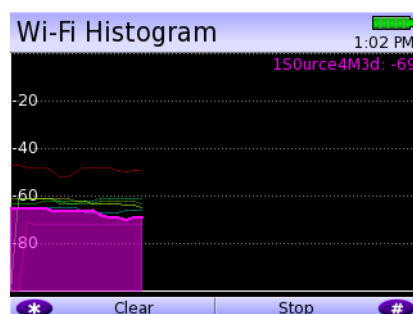

Figure 13 Wi-Fi Histograms
- 2 To view a histogram of the network, press the * key. A sample screen is shown in Figure 13.